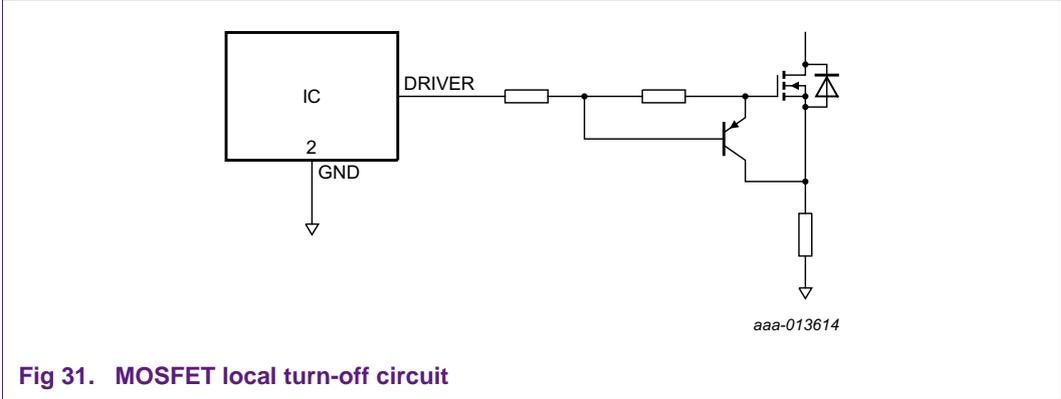

Fig 31. MOSFET local turn-off circuit
- The connection between both MOSFETs (PFC and flyback) and the IC driver outputs must be as short as possible. To minimize inductance, use wide tracks. Increase the distance between the copper tracks and/or use a separate guided ground track for both connections. The separated guided ground track minimizes the coupling between the PFCDRIVER and FBDRIVER signals. If it is impossible to place the MOSFET and the IC close to each other, a circuit, like the one in Figure 31, can be added.